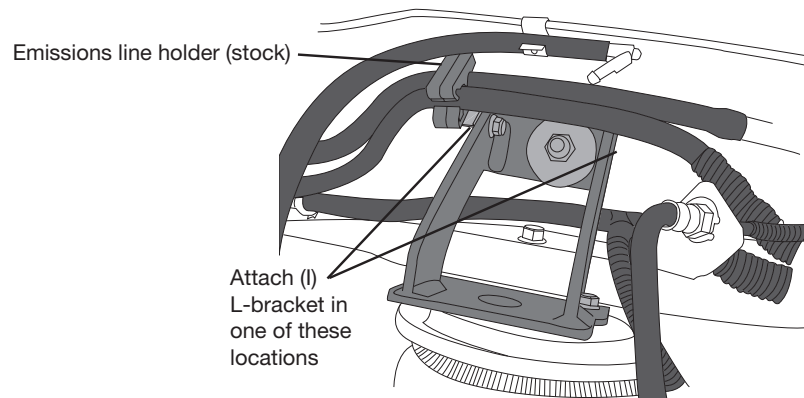

fig. 19
10. Insert the line holder post into the L-bracket (I) attached to the front or back leg of the upper left brace (C) (Fig. 19). It may be necessary to move the line holder post forward or back on the lines to line up correctly with the L-bracket hole. Reattach any line holders removed forward or behind the axle, if possible, that were removed to aid in positioning the upper brace.